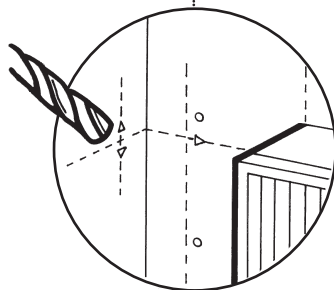

Fig. 36
14. Cut a hole approximately 107mm (4¹/₄ in) diameter in the masonry for the 100mm (4 in) diameter flue duct (Fig. 36). (Use of a core drill is recommended. When using a core drill, it is important to keep the drill level and square, particularly with the wall onto which the boiler is to be fitted).